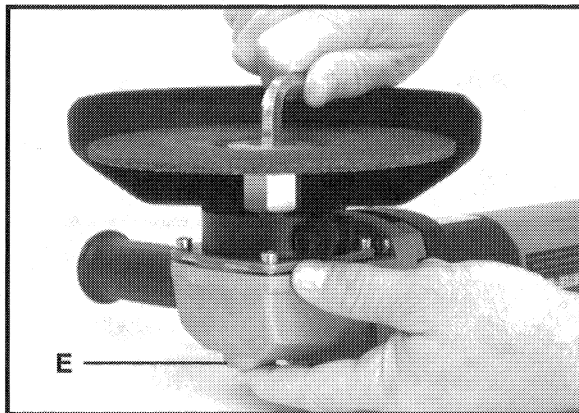

Fig. 6
6. Depress and hold spindle lock button (E) Fig. 6, use hex wrench (from 54347 kit) to slowly rotate retaining nut clockwise until spindle lock engages, then firmly tighten retaining nut.